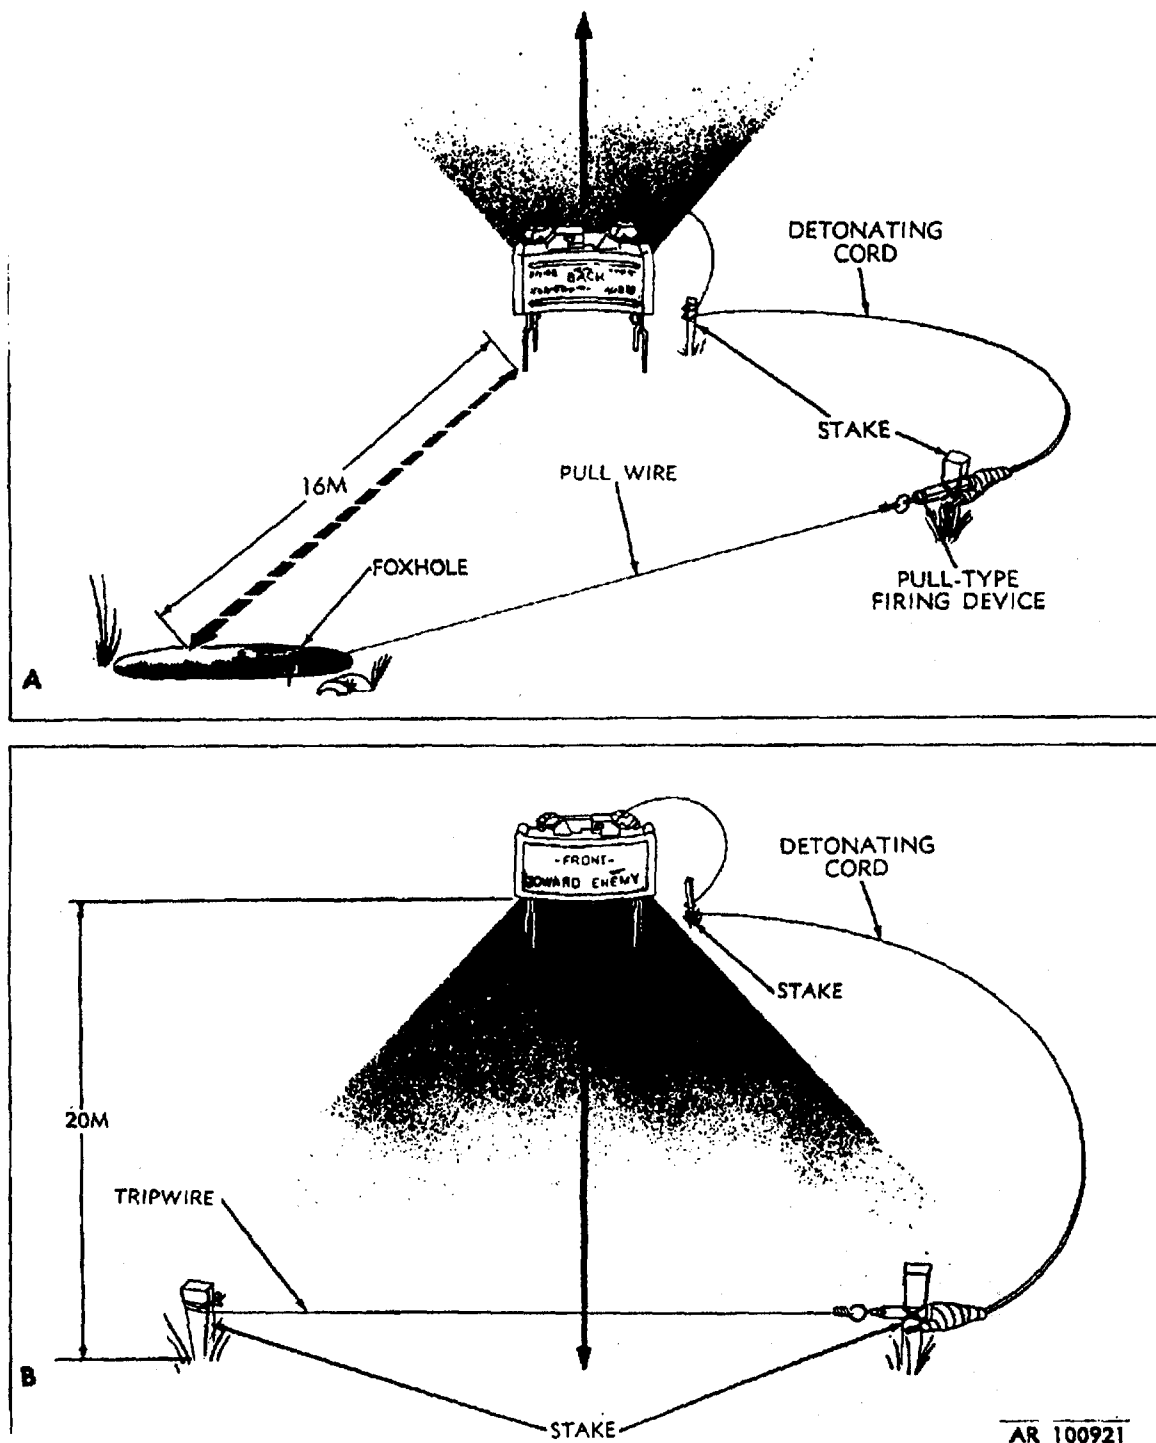

Figure 2-12. Mine M18A1 set up for nonelectric detonation.
- (4) For mines manufactured prior to 1972:
- (5) Mines manufactured after 1972 have a rubber insulated spool wire extending into the blasting cap of the M4 assembly and no connector. These mines require a different arming procedure as follows:
- (6) Unwind remaining firing wire to firing position. If possible, bury firing wire to protect it from artillery fire and to prevent easy detection. Camouflage the mine. Examples of setup are shown in figure 2-12.
- (1) *For pull-wire initiation:*
- (c) Fasten one end of detonating cord to blasting cap that is attached to firing device ((b) above) by means of tape (fig. 2-12, view A).
- (d) Fasten firing device securely to a firmly emplaced stake (fig 2-12, view A) by means of tape, wire, twine, or anchor cord.
- (i) Attach pull-wire securely to pull ring of firing device. Pull-wire should be of sufficient length to allow actuation of firing device from a protected position at least 16 meters rearward (minimum safe distance protected position) from emplaced mine (fig. 2-12, view A).
- (2) *For tripwire initiation:*
- (b) Use same procedures used in (1)(a) through (h) above for preliminary steps to arm mine.
- (c) Stretch tripwire across a trail or other avenue of approach, and securely attach firing device to two firmly emplaced stakes at a distance of approximately 20 meters forward of mine (fig. 2-12, view B).
- 5 Emplace mine and detonating cord as instructed in e(1)(a) to (h) above, and as shown in figure 2-12.
- 6 Attach a pull-type firing device (refer to FM 5-250) to free end of each piece of detonating cord, and attach a pull-wire or tripwire as instructed in e(1) or (2) above.